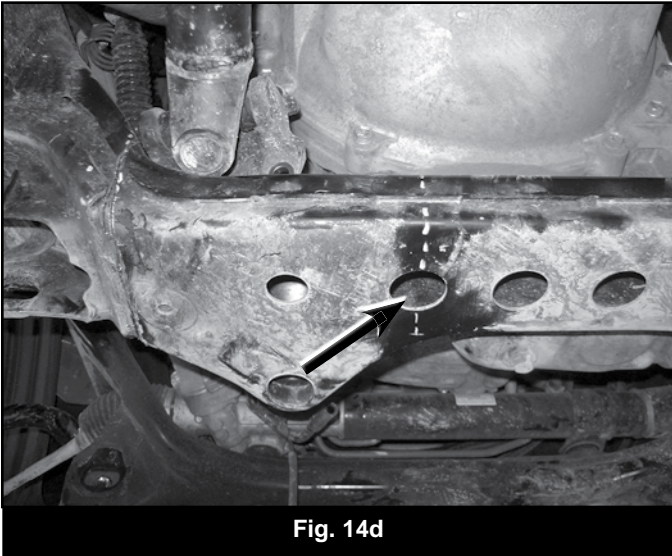

Fig. 14d
23. Measure over 7- $\frac{1}{4}$ " from the first cut line and make another mark around the entire cross member. This should be on the center of the large circles. Make a vertical cut and remove the section from the vehicle. (Fig 14d, 14e)